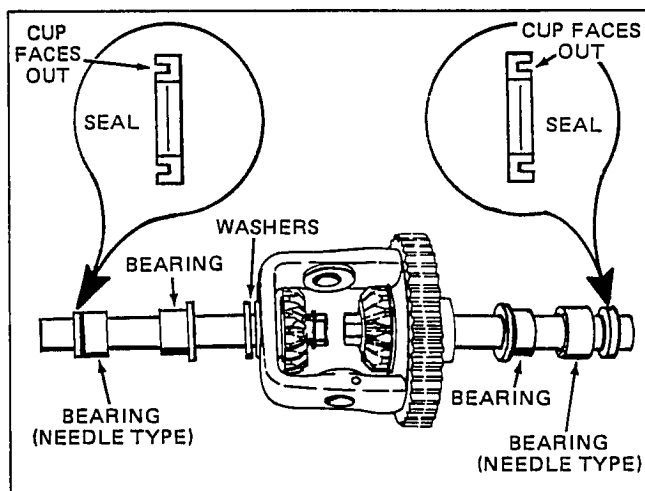

Figure 8-9A
- (b) Remove and inspect seals, bearings and washers for wear - replace if required. (Figure 8-9A)